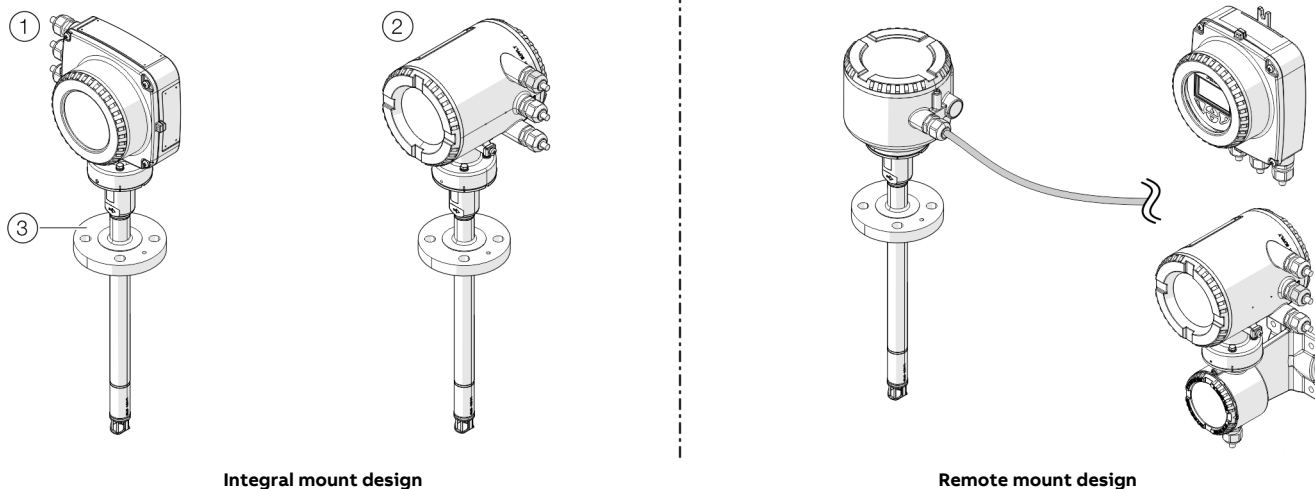

Figure 5: Sensor FMT430, FMT450 (example)
Design	Integral mount design (see Figure 5 on page 24), remote mount design; transmitter optionally in single-compartment housing (2) or dual-compartment housing (1)